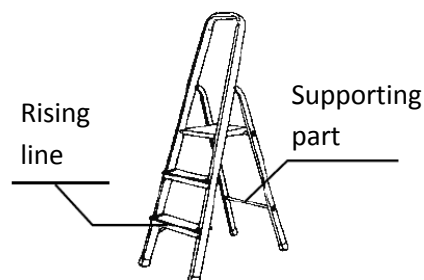

Fig. 9
### 3.3 One-sided climbing ladders, “steps” (Fig. 9)
- d) Do not step on the tube or the profile of the supporting part of one-sided steps (Fig. 9).